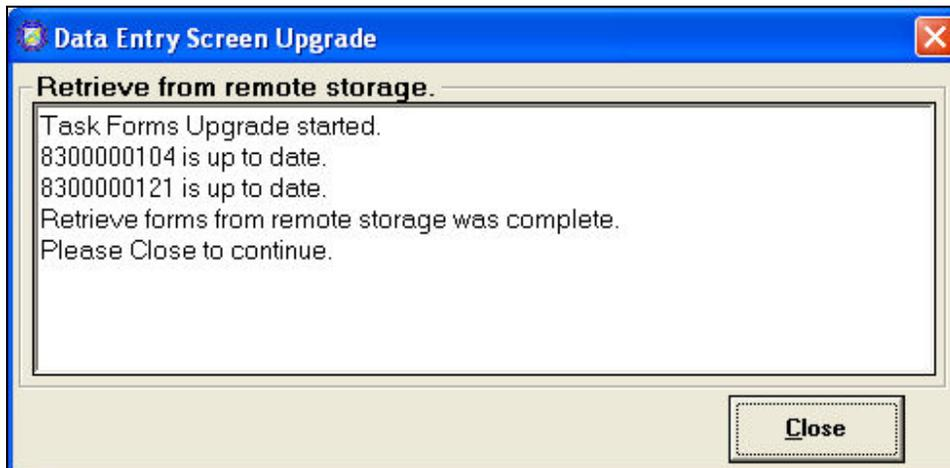

Figure 6.10.11
1. Select '**Tools**', '**Check Host For**', '**Data Entry Screen Upgrade**'. The Data Entry Upgrade window opens (Figure 6.10.11).